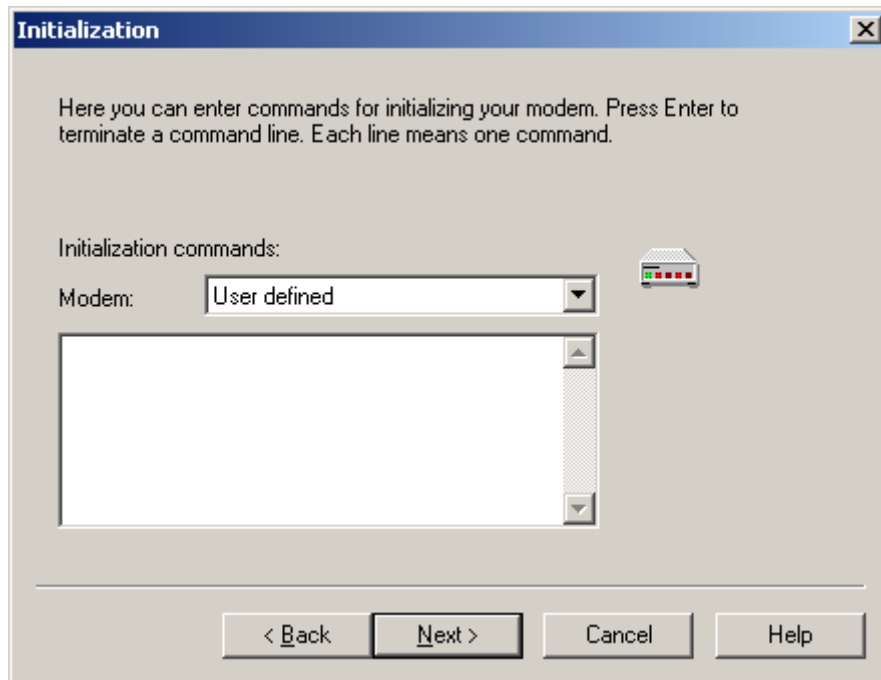

Figure 83. Initialization Dialog
12. Click **Next** when done entering information into the PIN and Properties dialog. This produces the Initialization dialog shown in Figure 83.